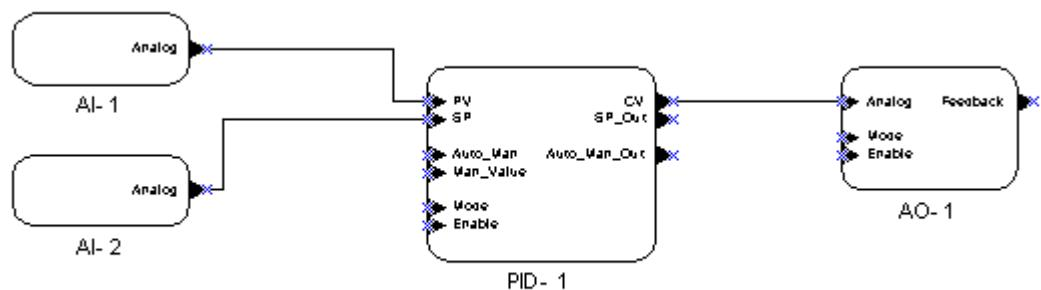

Figure 8.1 PID Example Drawing
Figure 8.1 shows an example PID loop for reference. The Analog Inputs come in from the left and connect to the PID setpoint (SP) and process variable (PV) inputs. AI- 2 controls the setpoint, which can range from zero to one hundred percent. In practice the setpoint and process variable will be in terms of some engineering unit, temperature in degrees C for example. The PID calculates the control value, CV, and sends it to the Analog Output, AO- 1. AO- 1 is wired to an actuator that drives the plant or process. The process is sampled by the Analog Input, AI- 1, and connecting this back to the PV input of the controller closes the loop.